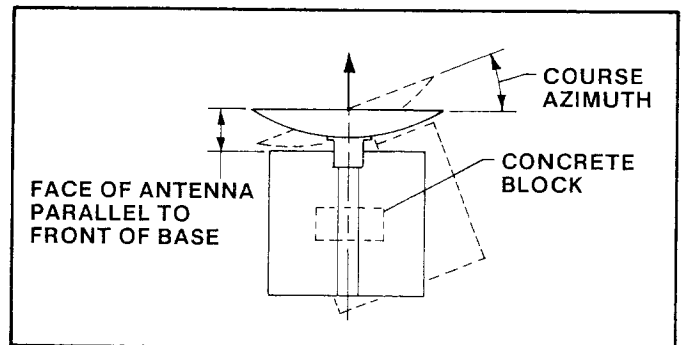

FIG. 2.2 - ROTATING ANTENNA AND BASE FOR COURSE AZIMUTH SETTING
- (3) Azimuth (Ref. Fig. 2.2 & 2.3). See Charts, Pages 11-14, for appropriate values.
Obtain azimuth for your satellite from charts on Pages 11-14. Face of antenna should be parallel to front of base frame (Refer to Fig. 2.2). Temporarily place a concrete block on base frame during course azimuth adjustment. Rotate antenna and base frame assembly, pointing it to the correct compass reading for your location and satellite. Slowly sweep antenna and base frame in azimuth until a signal is found. If desired signal is not found, increase or decrease elevation setting and repeat the above procedure until the desired signal is found.